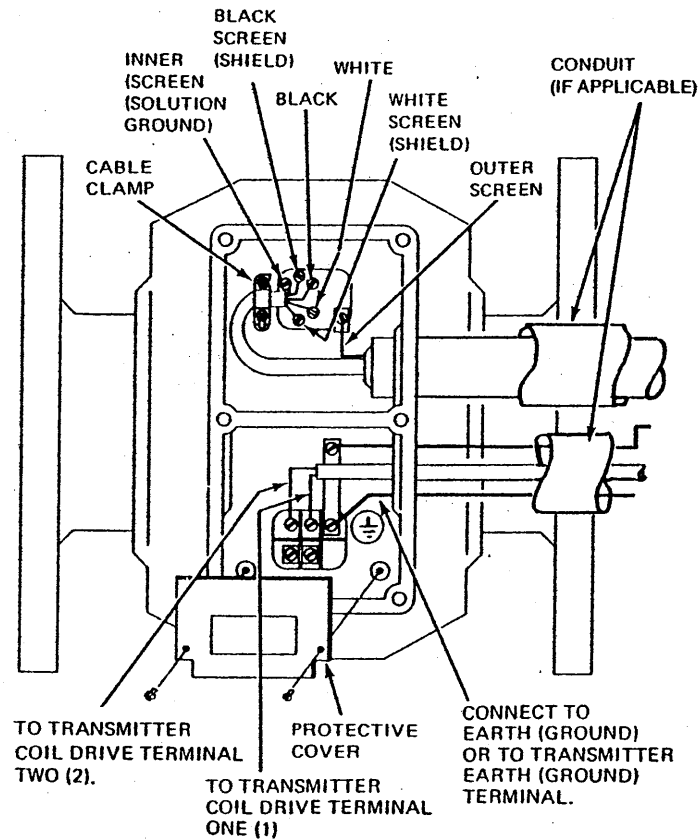

Figure 8.
2. Remove terminations cover from flowtube. On flanged-body flowtube, also remove protective cover shown in Figure 8.
3. Refer to Figure 7 (wafer-body flowtube) or Figure 8 (flanged-body flowtube) and disconnect all wires from flowtube terminals. Also disconnect flowtube earthing (grounding) wires from pipe flanges or grounding rings, if applicable.